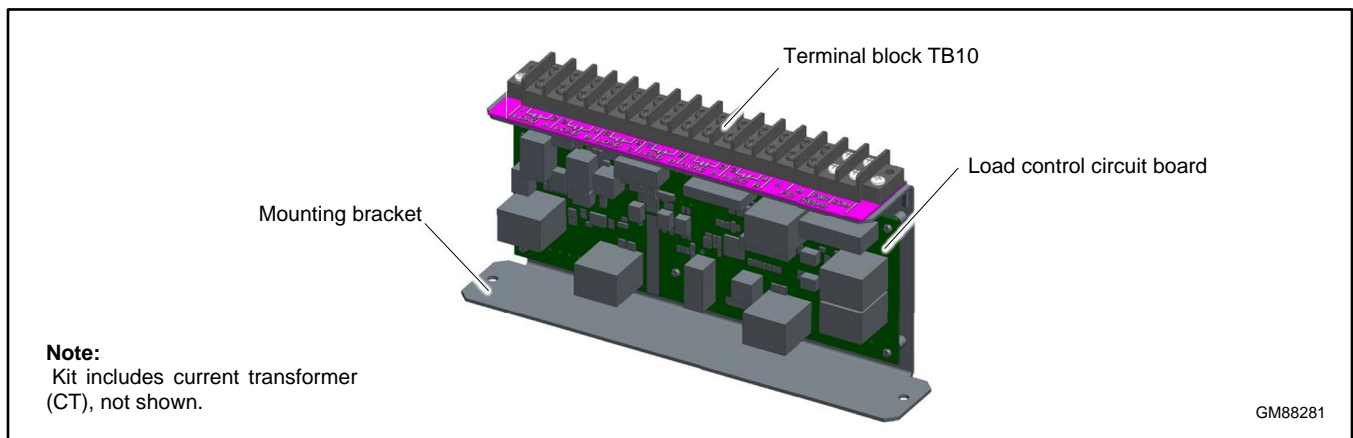

Figure 33 Load Shed Assembly GM88281-1 (mounts inside the transfer switch enclosure)
- The optional Load Shed Kit mounts inside a model RDT or RXT transfer switch. Figure 33 shows the load shed assembly.